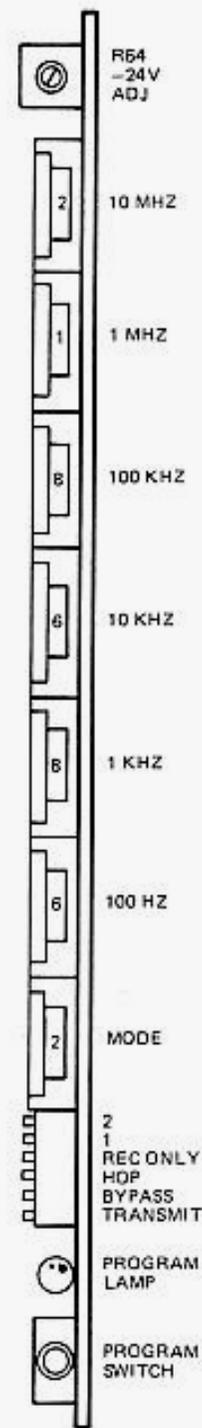

Figure 3. Input/Output Summary
- f. Use calibrated VOM and measure  $-24\text{ Vdc}$  ( $\pm 1\text{ Vdc}$ ) at pin 24 of U1 and U2. If within tolerance, reverse procedure to return to normal operating configuration. If not within tolerance, locate R64 using component location diagram in figure 3, and use small flat-blade screwdriver to adjust voltage to  $-24\text{ Vdc}$ . This completes adjustment.
Figure 3 summarizes, card edge connections and test point or other significant physical board detail as viewed from the top.